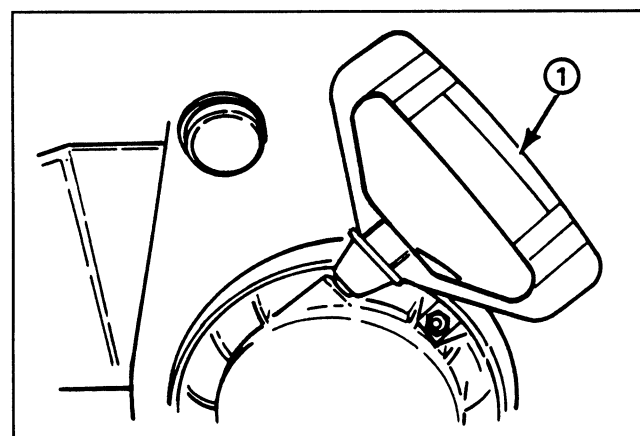

Figure 16
Recoil Starter (Fig. 16)—Recoil starter is on back side of engine. Pull recoil starter to start engine.
7. Grasp recoil starter handle (Fig. 16) and pull it out slowly until positive engagement results; then pull vigorously to start the engine. Keep firm grip on starter handle and return the rope slowly.